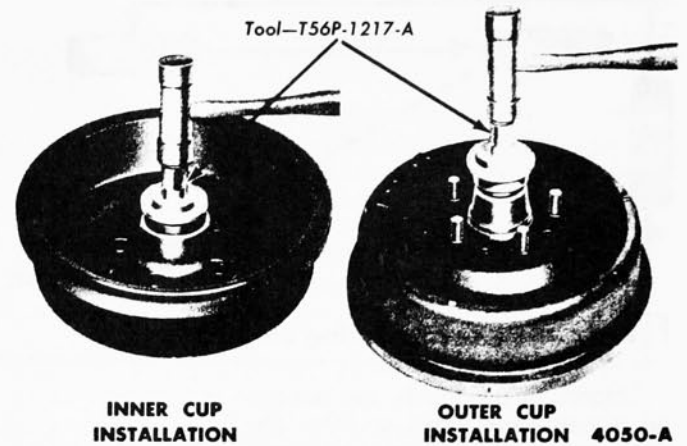

FIG. 2—Front Wheel Bearing Cup Installation
12. Install the inner and outer bearing cups in the hub with the tool shown in Fig. 2. **Be sure to seat the cups properly in the hub.**